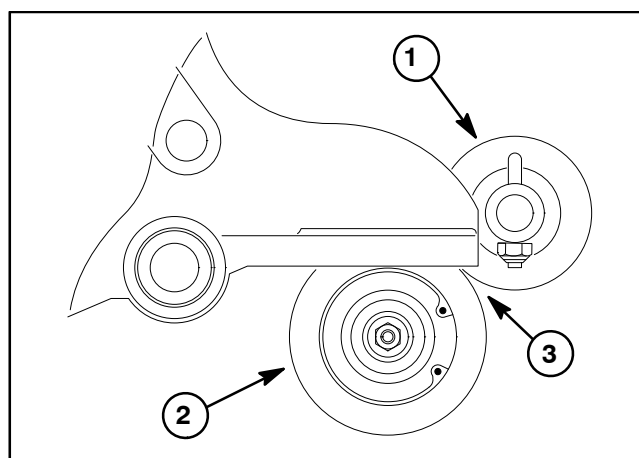

Figure 61
6. Check that roller brush is parallel to rear roller with 0.060" (1.5 mm) clearance to light contact with roller (Fig. 61). If contact is incorrect, brush operation will be adversely affected.
B. If driven pulley (item 12) was removed from roller brush shaft, apply antiseize lubricant to splines of pulley bore and slide pulley onto shaft. Install and tighten flange nut until pulley is seated onto shaft and then torque flange nut from **27 to 33 ft-lb (37 to 44 N-m)**. Use a ½ wrench on roller brush shaft flats to prevent shaft from rotating when tightening nut.
D. If driven pulley (item 12) was removed, check and adjust alignment of drive and driven pulleys (see Rear Roller Brush Drive System in this section).
4. Check that brush is parallel to rear roller with 0.060" (1.5 mm) clearance to light contact with rear roller (Fig. 61). If contact is incorrect, brush operation will be adversely affected.